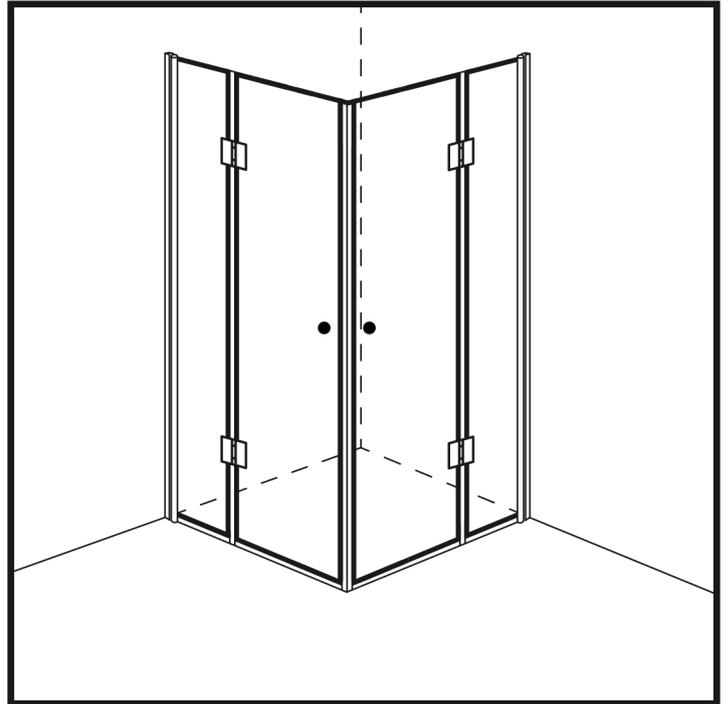

Figure 21
25. Remove the blocks from under the glass. (Figure 21)